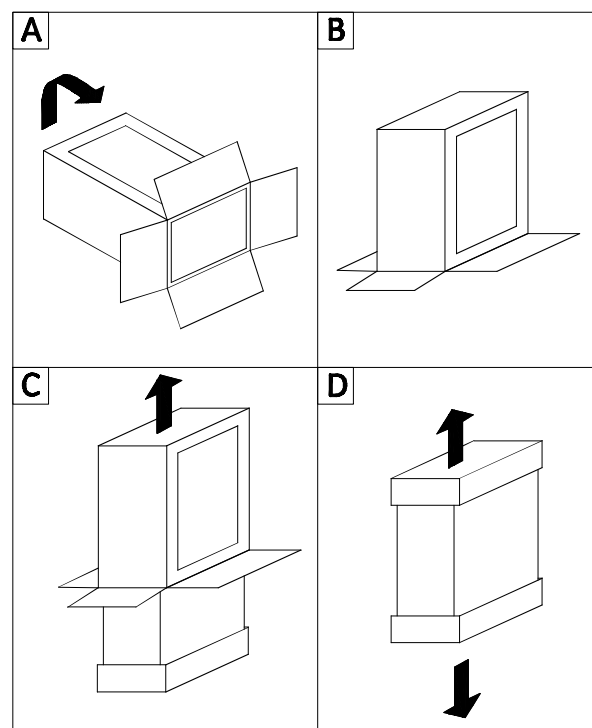

Figure 3.1 - Unpacking the water heater
- A. Place the packed appliance on the floor (see fig. 3.1) making sure that the unit is in its upright position. Open out the four flaps of the box.